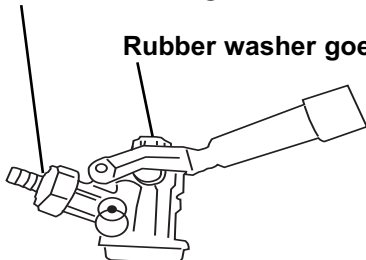

Figure 7
- Insert the keg coupler provided into the locking neck of the beer keg and turn it clockwise to lock into position, making sure the keg coupler is in the closed position. **(See Figure 7)**
- Make sure the 2 rubber washers are properly inserted into the coupler. See Fig. 7 below.